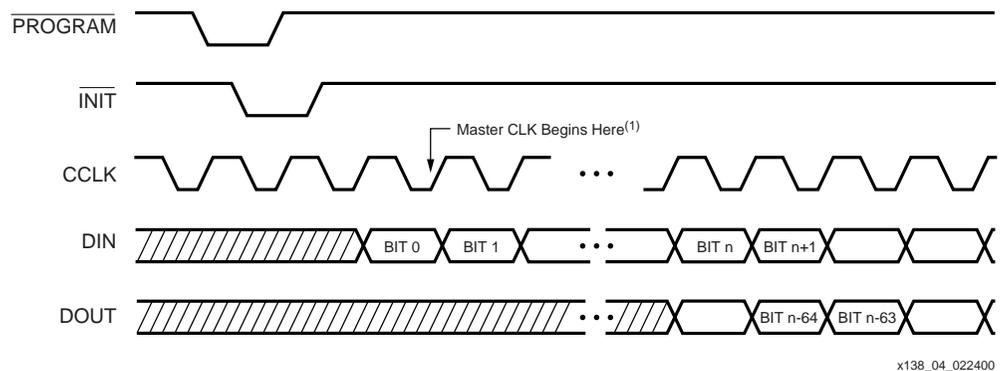

Figure 4: Serial Configuration Clocking Sequence
1. For Slave configurations a free running CCLK can be used as indicated in Figure 4. For Master configurations, the CCLK does not transition until after initialization as indicated by the arrow.